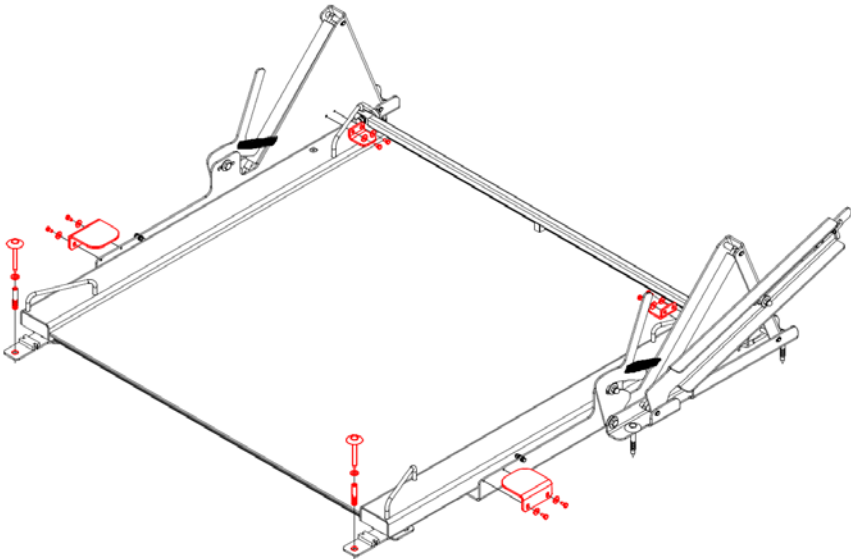

Fig. 13. Assembly of the construction of the platform lifting system and anchor bolts
8. Remove the ramp, assemble the limiters of the construction of the platform lifting system. Screw one pin to each foot (Figure 13).